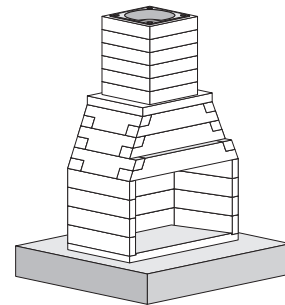

FIGURE 3.1
1. **Concrete Slab (Figure 3.1)**